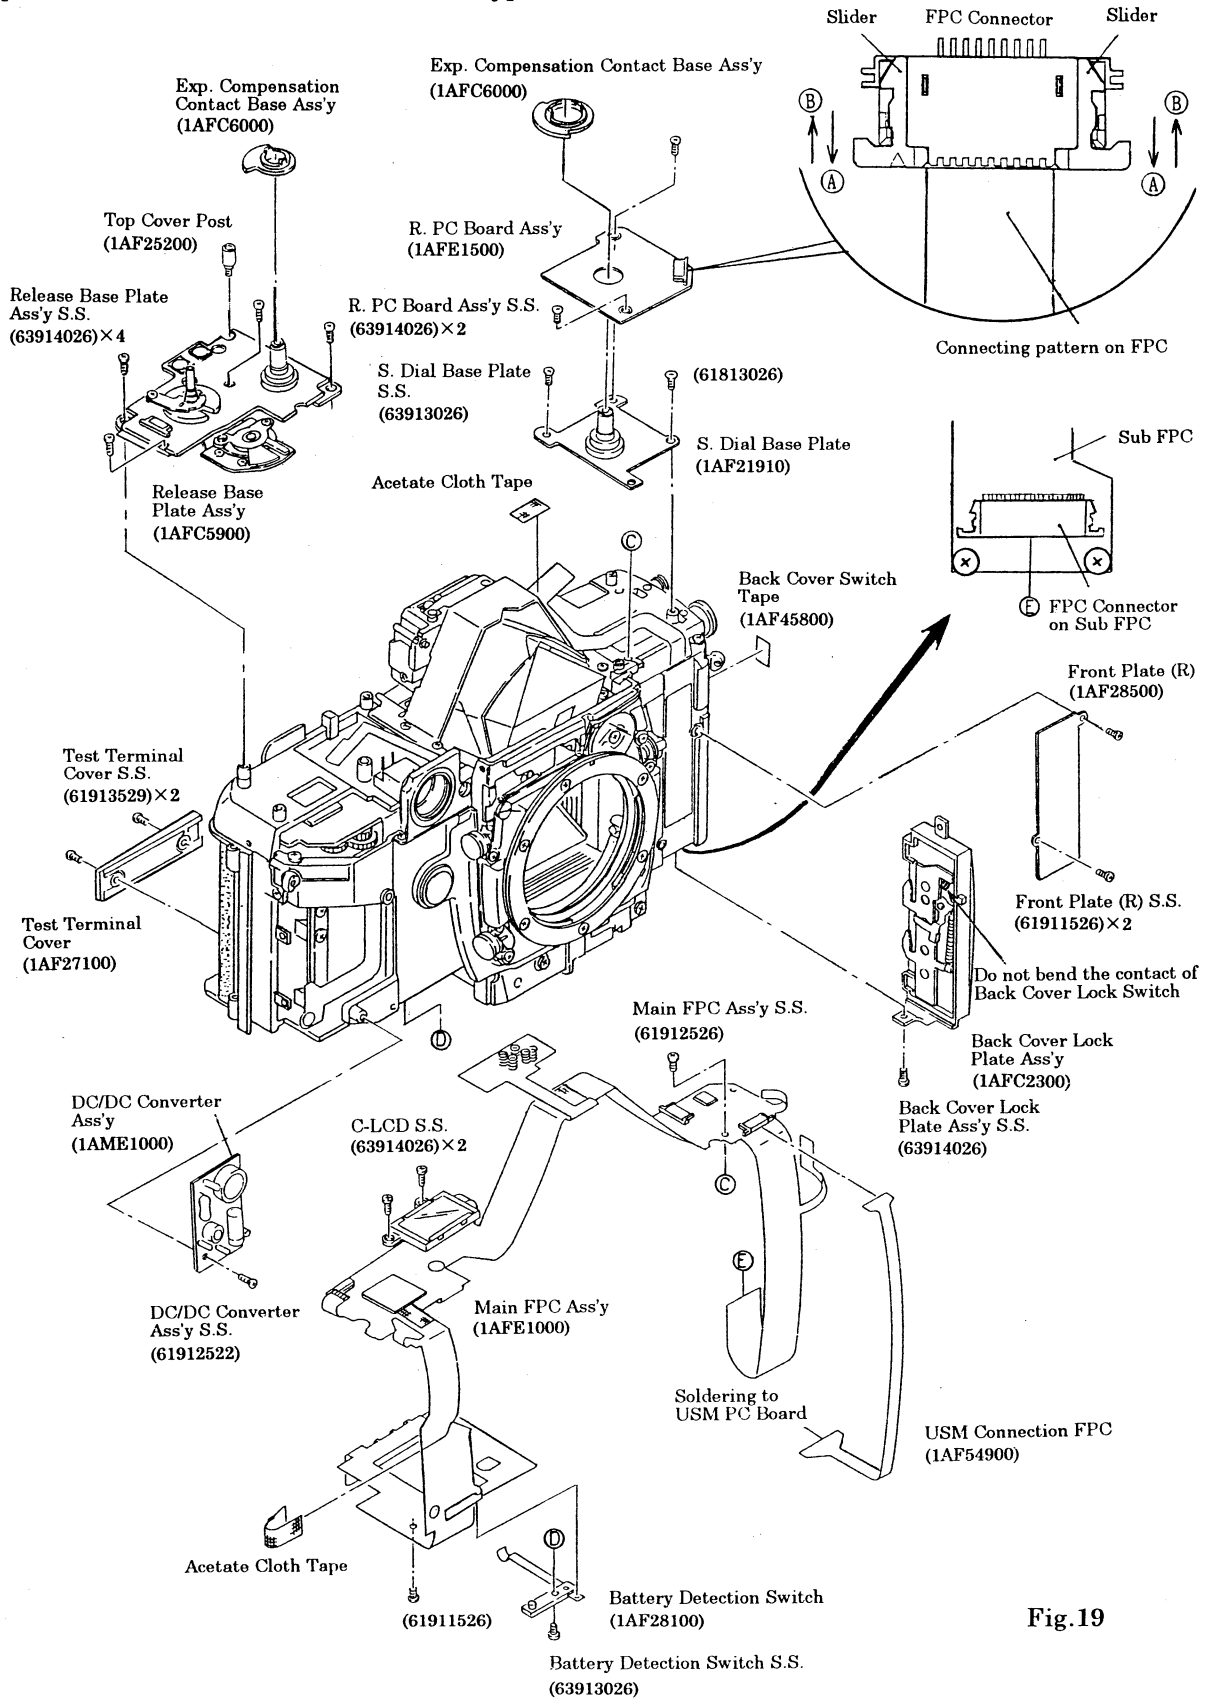

Fig.19
* This camera uses an FPC Connector to connect an FPC to a Board or an FPC to another FPC. To disconnect an FPC from the FPC Connector, move the two sliders of the FPC Connector in the direction of the arrow ① and remove the FPC. (See Fig.19)
To set an FPC into the FPC Connector, clean the connecting pattern of the FPC with lens cleaning paper with ether alcohol, insert the connecting pattern of the FPC into the FPC Connector and move the two sliders in the direction of the arrow ②. (See Fig.19)
(See Figs. 19 and 20)
(Top left of Body) (See Figs. 19 and 20)
(Bottom of Body) (See Figs. 19 and 20)
(See Fig. 19)